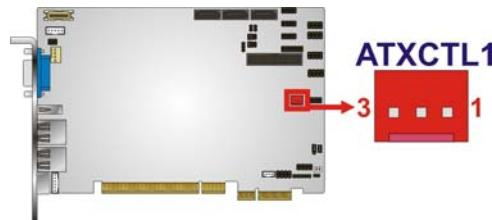

Figure 3-3: ATX Power Supply Enable Connector Location
**CN Location:** See Figure 3-3